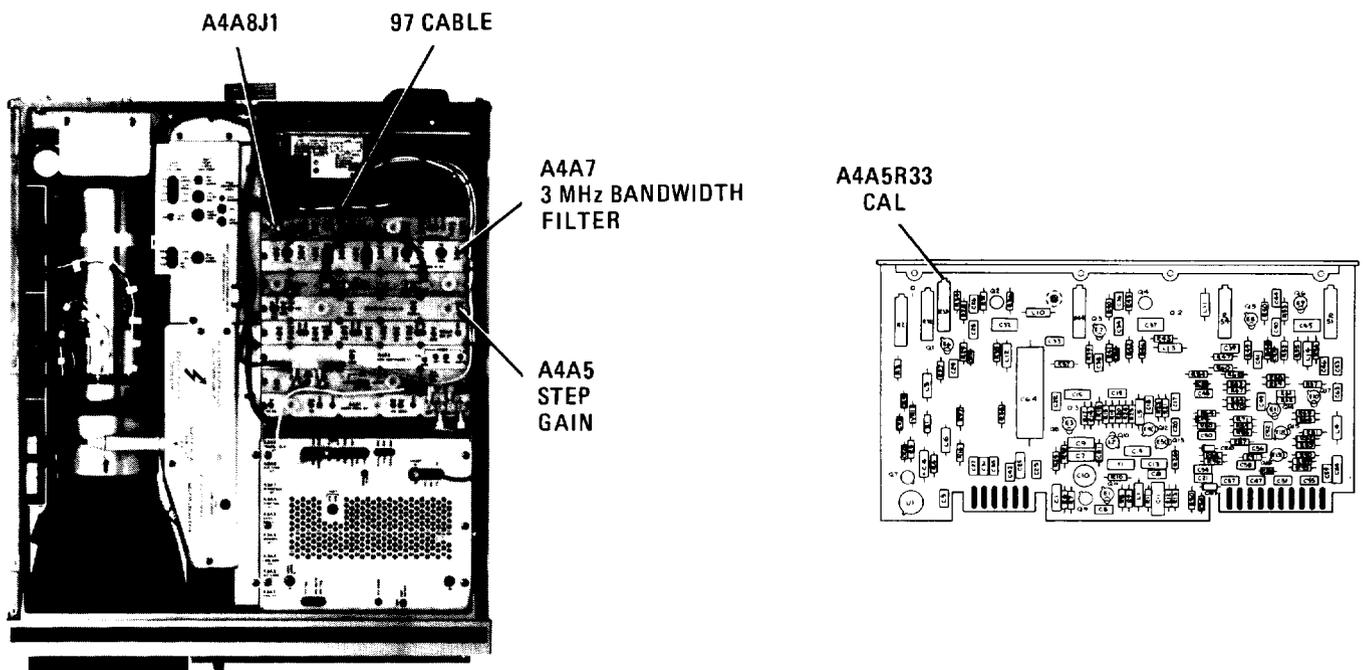

FIGURE 33. LOCATION OF IF GAIN ADJUSTMENT
5. Disconnect 97 (white/violet) cable from A4A8J1 and connect cable to power meter/power sensor. Refer to Figure 33 for location of 97 cable and A4A8J1.
9. Note MARKER amplitude in mV and adjust A4A5R33 CAL to 70.7 mV (top CRT graticule line). Refer to Figure 33 for location of adjustment.